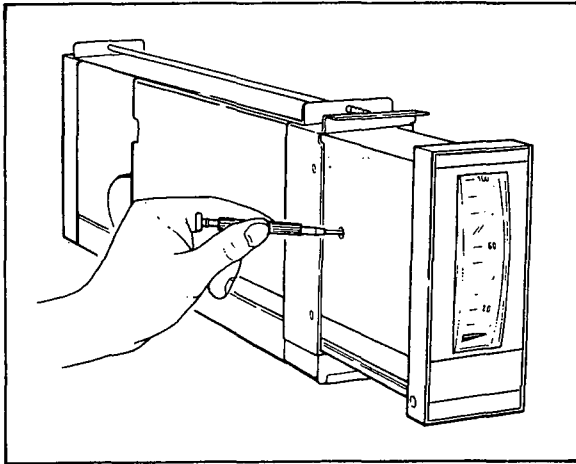

Figure 6-3. Zero Adjustment for Pointer 1 (Red).
- (1) Apply 1V, 2V, 3V, 4V and 5V DC signals from a DC voltage/current standard across input terminals 3 (+) and 4 (-).
- (2) Adjust using the same procedure as described in steps (2) thru (5) for SIHM-100. The zero adjustment for input 1 pointer (red) is the left side of the instrument and it for input 2 pointer (blue) is the right side of the instrument (see Figure 6-3 and 6-4).
- (3) If the instrument is inclined, carry out the zero adjustment in the inclined condition.